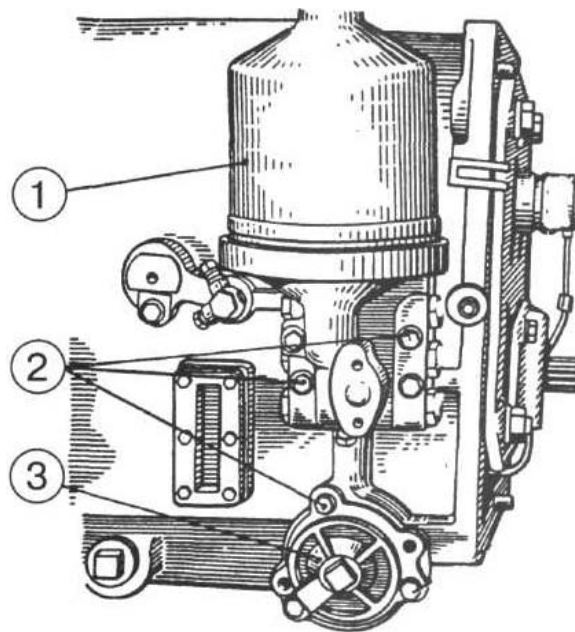

Figure 4.58
d) unscrew bolts 2 (Figure 4.58), dismantle filter-distributor 1, meshed filter 3 and spacers;